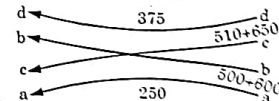

Fig. 4. Traffic weaving in east-south direction.
- The weaving traffic movement in the East-South direction is shown in Fig. 4.